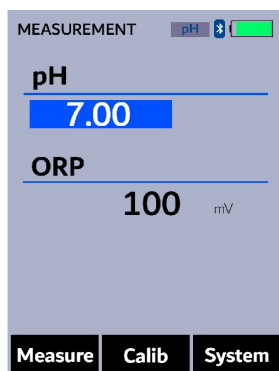

Figure 8.
6. The pH and ORP values will be updated every two seconds on the SP-710B main module display. The values will be displayed in white with a **blue background** once a stable value is reached (Figure 8).